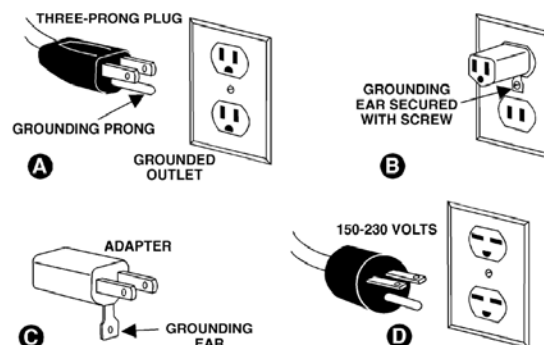
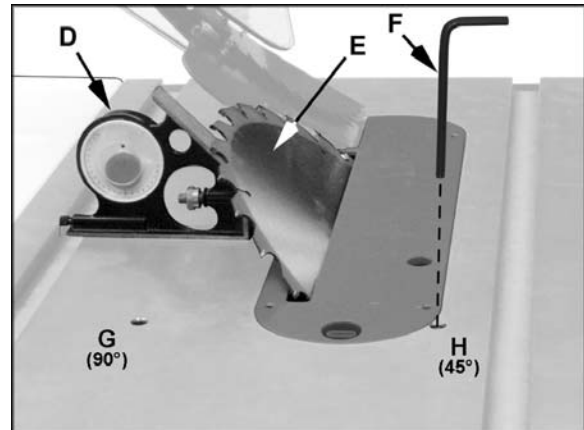

Figure 20
Figure 25
The JPS-10TS table saw is rated at 115/230V power, and is pre-wired for 115 volt. The table saw comes with a plug designed for use on a circuit with a *grounded outlet* that looks like the one pictured in **A**, Figure 20.
This tool is intended for use on a circuit that has an outlet that looks like the one illustrated in **A**, Figure 20. An adapter, shown in **B** and **C**, may be used to connect this plug to a 2-pole receptacle as shown in **B** if a properly grounded outlet is not available. The temporary adapter should be used only until a properly grounded outlet can be installed by a qualified electrician. *This adapter is not permitted in Canada.* The green-colored rigid ear, lug, and the like, extending from the adapter must be connected to a permanent ground such as a properly grounded outlet box.
This tool is intended for use on a circuit that has an outlet that looks like the one illustrated in **D**, Figure 20. The tool has a grounding plug that looks like the plug illustrated in **D**. Make sure the tool is connected to an outlet having the same configuration as the plug. No adapter is available or should be used with this tool. If the tool must be reconnected for use on a different type of electric circuit, the reconnection should be made by qualified service personnel; and after reconnection, the tool should comply with all local codes and ordinances.
- Place a square (D, Figure 25) on the table and verify that blade (E, Figure 25) is at 45° to table. Make sure that the square is not touching a blade tooth.
- Back out the 45° adjust setscrew (H, Figure 25) counter-clockwise one or two turns with 4mm hex key (F, Figure 20).
- Tighten the 45° adjust setscrew (H) until it stops, but do not force.